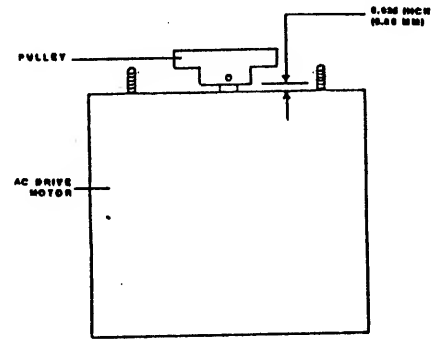

Figure 3-29
2. Motor pulley should be .035 inch (.88 MM) up off of motor face. (See Figure 3-29). Ensure that one set screw is located on flat side of motor shaft.